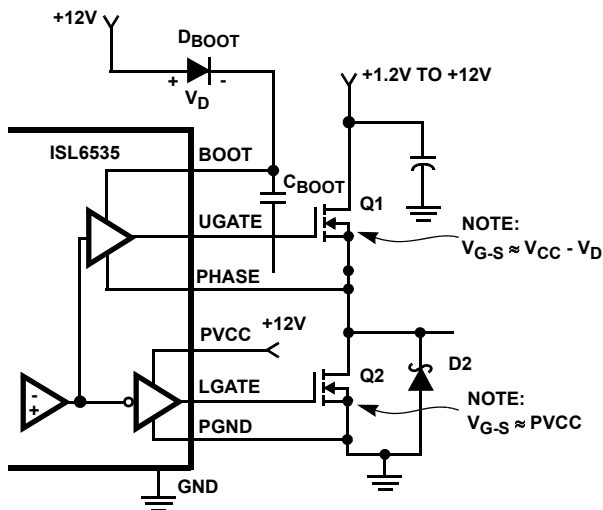

FIGURE 9. UPPER GATE DRIVE - BOOTSTRAP OPTION
**Figure 9** shows the upper gate drive (BOOT pin) supplied by a bootstrap circuit from +12V. The boot capacitor,  $C_{BOOT}$  develops a floating supply voltage referenced to the PHASE pin. This supply is refreshed each cycle to a voltage of +12V less the boot diode drop ( $V_D$ ) when the lower MOSFET,  $Q_2$  turns on. A MOSFET can only be used for  $Q_1$  if the MOSFETs absolute gate-to-source voltage rating exceeds the maximum voltage applied to +12V. For  $Q_2$ , a logic-level MOSFET can be used if its absolute gate-to-source voltage rating also exceeds the maximum voltage applied to +12V.